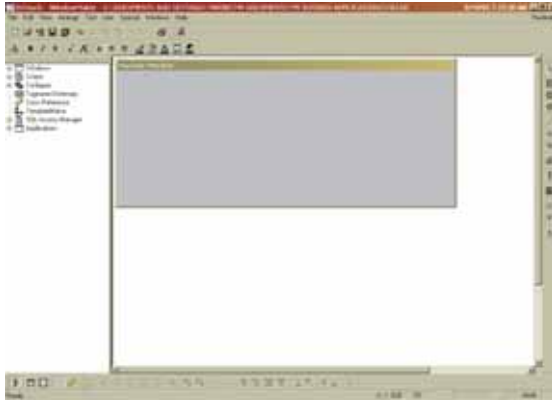

FIG. 241: WINDOW MAKER/CREATING A NEW WINDOW
Step 25. Click on the OK button. A new window appears. (See Fig. 241)